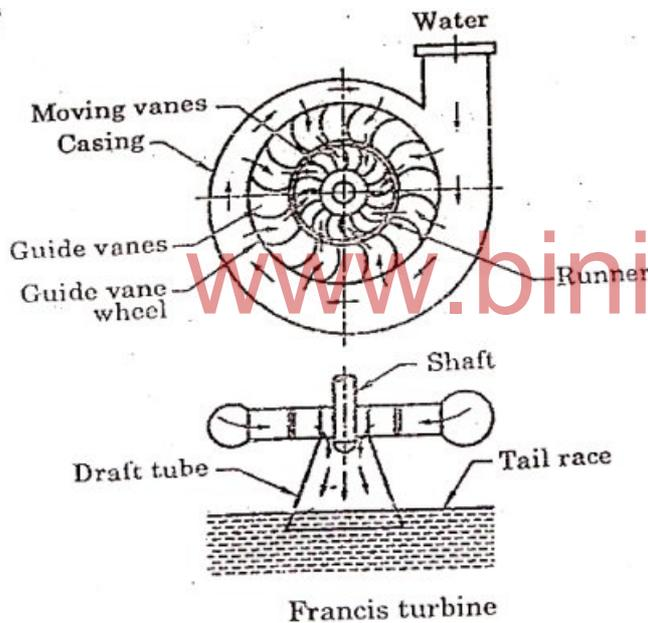

Fig.3.11
- This turbine consists of a runner (moving vane wheel) which is connected to the turbine shaft. The runner is surrounded by a fixed guide vane wheel as shown in fig 3.11. The guide vane blades guide the water to enter the runner vanes at the correct angle without giving shock to the runner. Each guide vane can be rotated about its pivot, which is connected to ring by means of a link and lever. Thus, the guide vanes can be opened or closed by operating the rig for varying the quantity of water to control the speed of runner. Both the runner and guide vane wheel are enclosed by scroll casing.